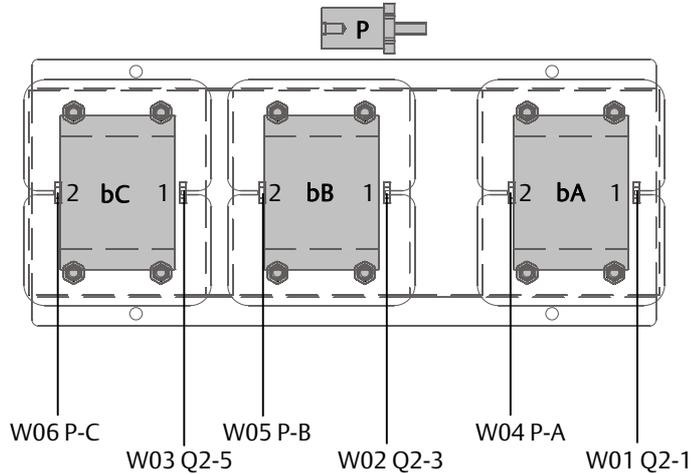

Figure 8-3 Inductor connections (1)
b) Refer to Figure 8-3, connect one end of W31 ~ W36 to inductor A, Inductor B, and Inductor C, respectively. Use the M6 × 16 SEMS screws, M6 flat washers and nuts to secure them to the terminals. The torque value is 4.8N.m.